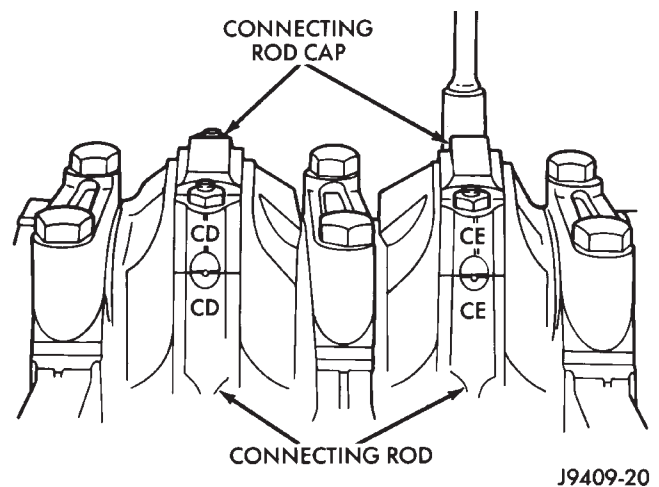

Fig. 1 Stamped Connecting Rods and Caps
- (1) Remove the engine cylinder head cover.
- (2) Remove the rocker arms, bridges and pivots.
- (3) Remove the push rods.
- (4) Remove the engine cylinder head.
- (5) Position the pistons one at a time near the bottom of the stroke. Use a ridge reamer to remove the ridge from the top end of the cylinder walls. Use a protective cloth to collect the cuttings.
- (6) Raise the vehicle.
- (7) Drain the engine oil.
- (8) Remove the oil pan and gasket.
- (9) Remove the connecting rod bearing caps and inserts. Mark the caps and rods with the cylinder bore location. The connecting rods and caps are stamped with a two letter combination (Fig. 1).